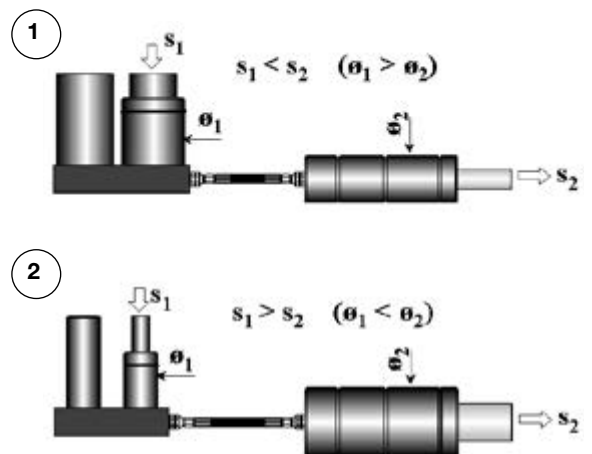

Figure 10:
The difference between the strokes is dependent on the difference in piston diameters. The cam stroke is faster than the press stroke (Fig. 10, item 1).
The opposite can also be achieved: shorter cam stroke compared to the press stroke (Fig. 10 item 2)